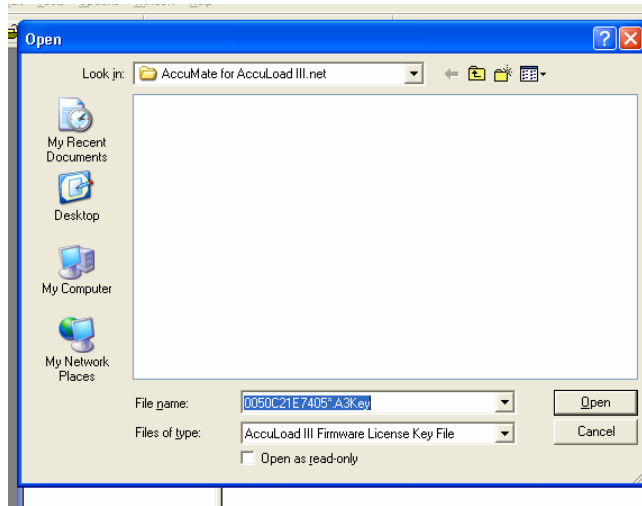

Figure 3
4. If a valid .A3Key file is found in the C:/Program Files/Smith Meter/AccuMate.net directory, then the following open file dialog box will not appear. Otherwise, if a valid key is not automatically found in the AccuMate directory, then this window will require that the location of the key be specified. Shown in Figure 3 is the open file dialog box for the .A3Key file.